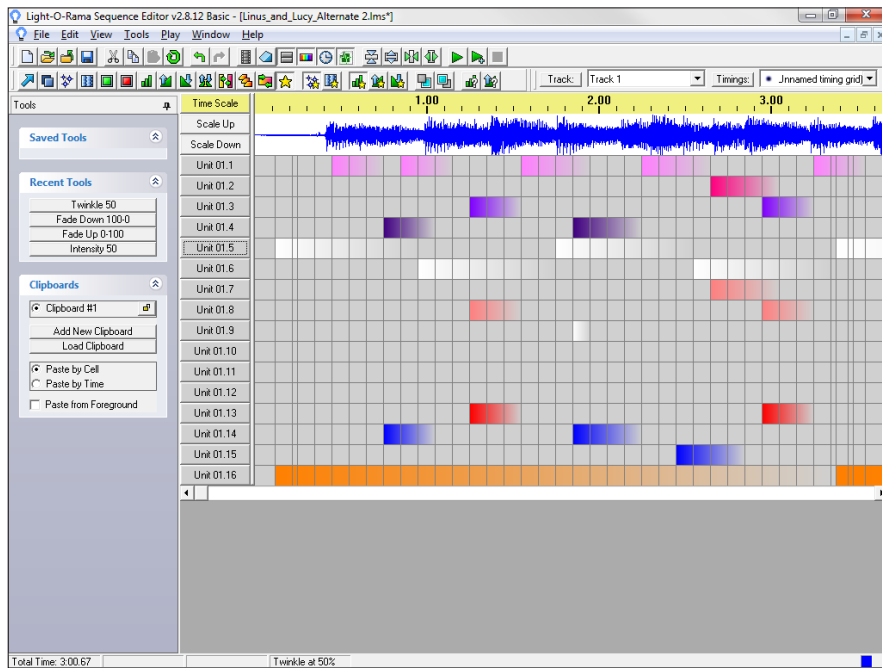

Figure 3-12:
- ◆ If it helps, you can make the wave file visible by choosing View⇄WaveForm. Figure 3-12 shows a sequence with the waveform visible.